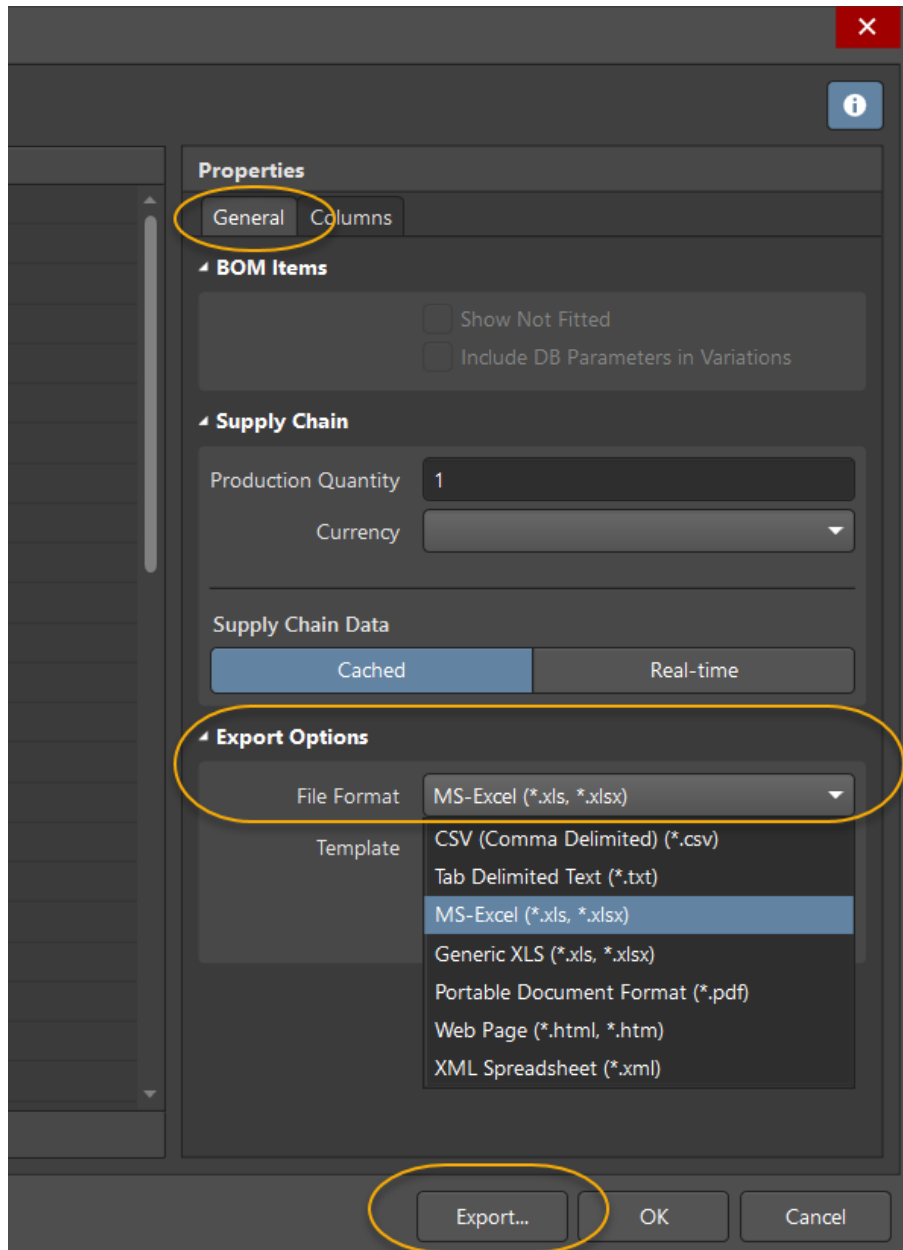

Figure 4. BOM export options
15. Under the *Export Options* from the *General* tab, select **MS-Excel (*.xls)** as the file format, as shown in Figure 4. Select **Export** to generate the report.